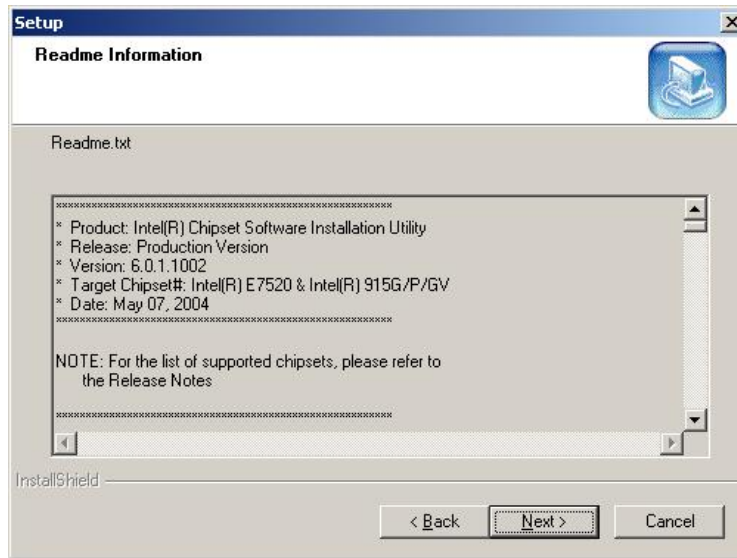

Figure 7-4: Readme Information
Step 6: Agree to the license terms by clicking “Yes”. The “Readme” in Figure 7-4 appears.